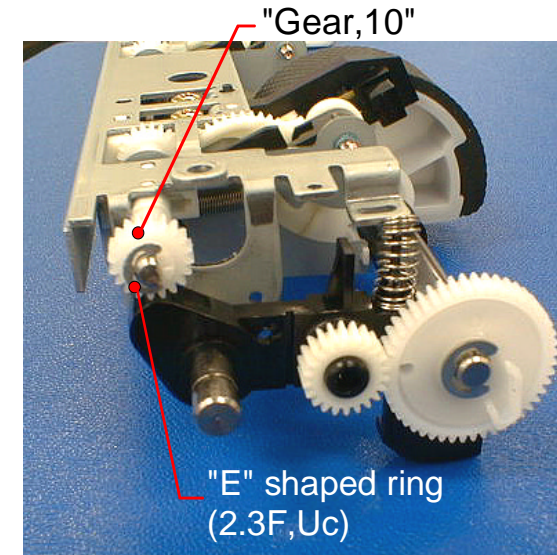

Figure 4-171. Installing "Gear,11"
39. Insert "Gear,10" to "Axis, Transmission, Curl", and fix it with "E" shaped ring(2.3,F/Uc). (See figure4-171)
The reason to perform procedure 40 is to make the axis shape of "Gear,10" perfect reversed "D" shape, as it is shown in figure4-171, and prepare to adjust alignment of the whole "ASF Unit."